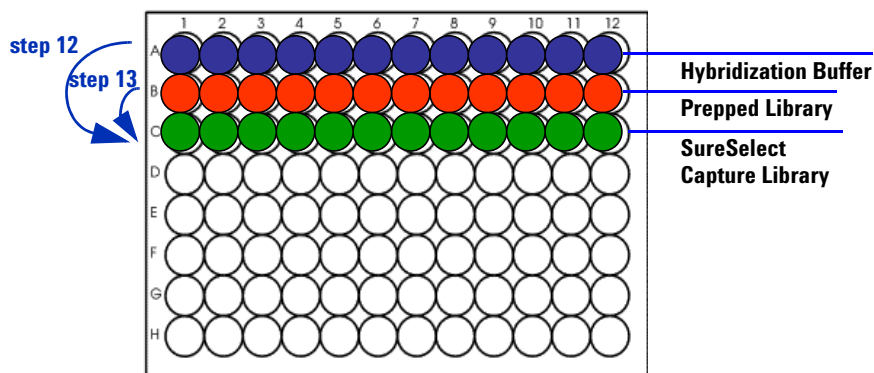

Figure 7 SureSelect Capture Library, or “Baits”, shown in Green
- 12** Maintain the plate at 65°C while you use a multi-channel pipette to take 13 µL of Hybridization Buffer from the “A” row and add it to the SureSelect capture library mix contained in row “C” of the PCR plate for each sample. (See Figure 7.)
13 Maintain the plate at 65°C while you use a multi-channel pipette to transfer the entire contents of each prepped library mix in row “B” to the hybridization solution in row “C”. (See Figure 7.) Mix well by slowly pipetting up and down 8 to 10 times.